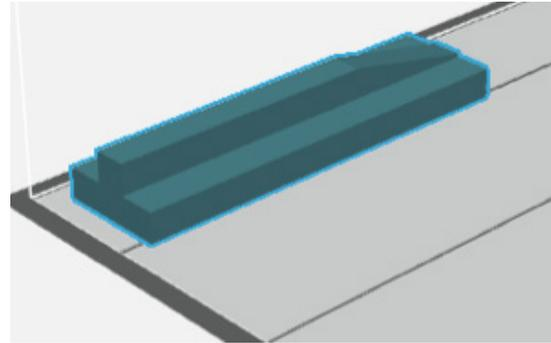

Figure 4: Long edge along the X-axis.
- For parts that have a high aspect ratio (X:Y), position the longer edge along the X-axis (Figure 4).